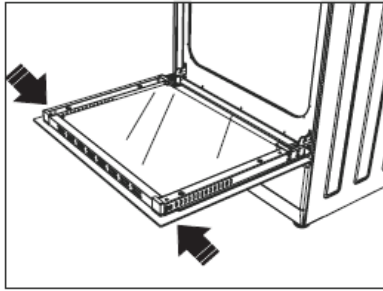
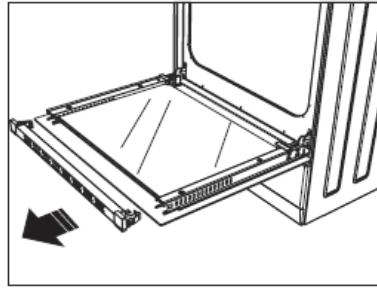
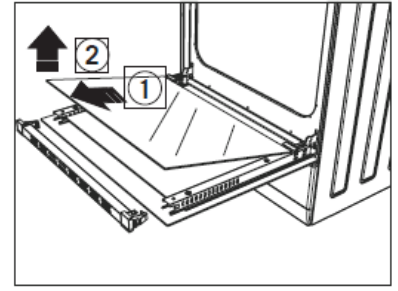

Figure 1
Figure 2
Figure 3
- Remove the profile by pressing the plastic latches on both left and right sides as shown in figure 1 and pulling the profile towards yourself as shown in figure 2. Then remove the inner-glass as shown in figure 3. After cleaning and maintenance are done, remount the glasses and the profile in reverse order. Make sure the profile is properly seated in its place.